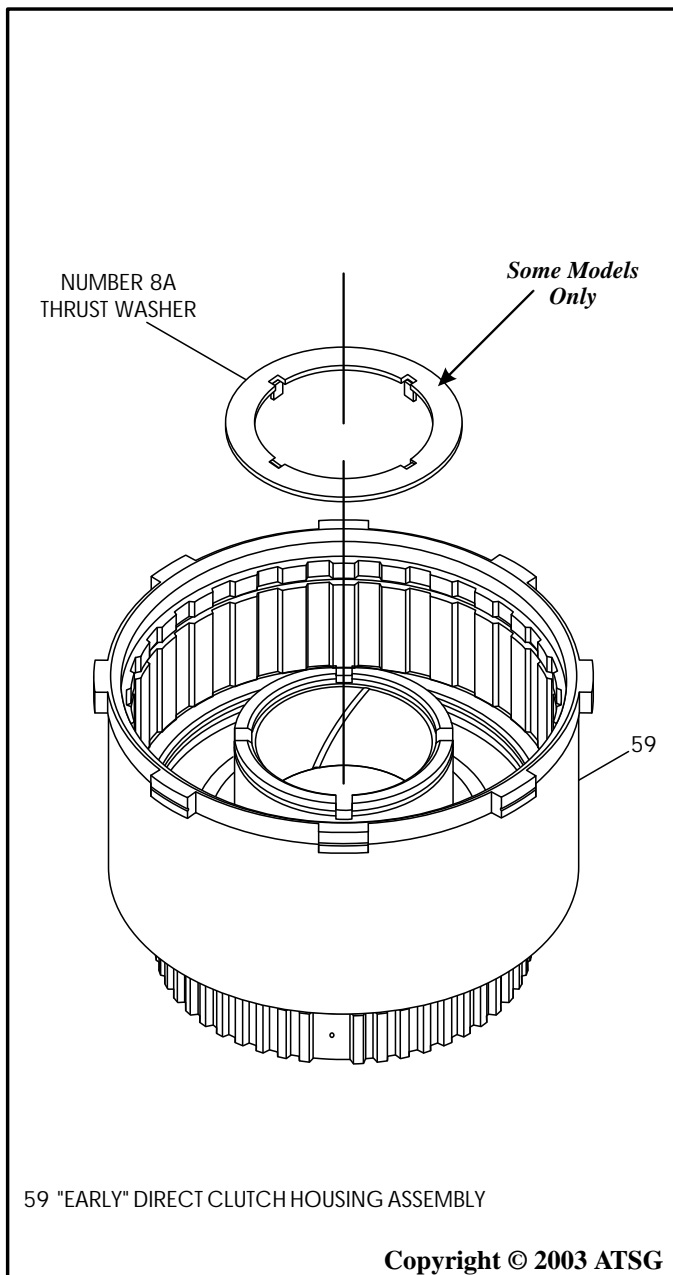

Figure 122
1. We are once again showing you the difference between the "Early" and "Late" direct clutch housings in Figures 122 and 123, as this is the last chance you will have to install the number 8A thrust washer, if you require one.